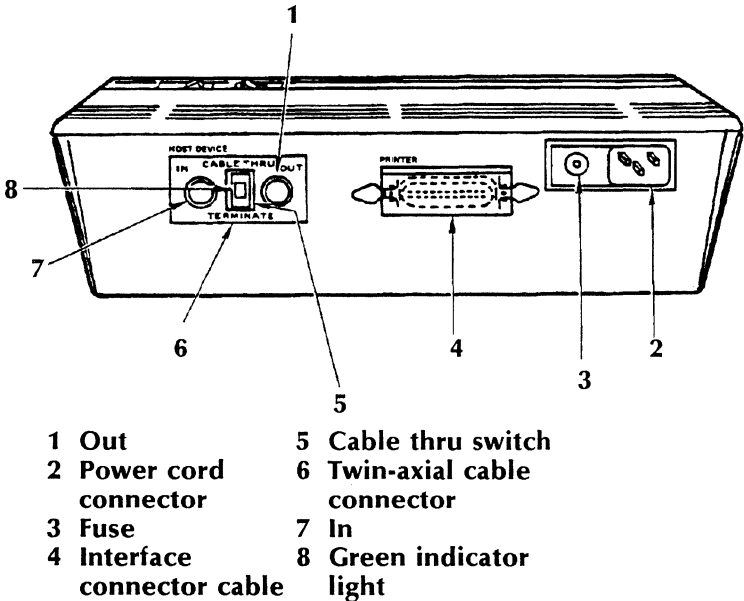

Figure 6-4 **Back of 275 IC**
1. Locate the twin-axial connector labeled **Host Device** on the back of the 275 IC. (Figure 6-4 shows the back panel of the 275 IC.)